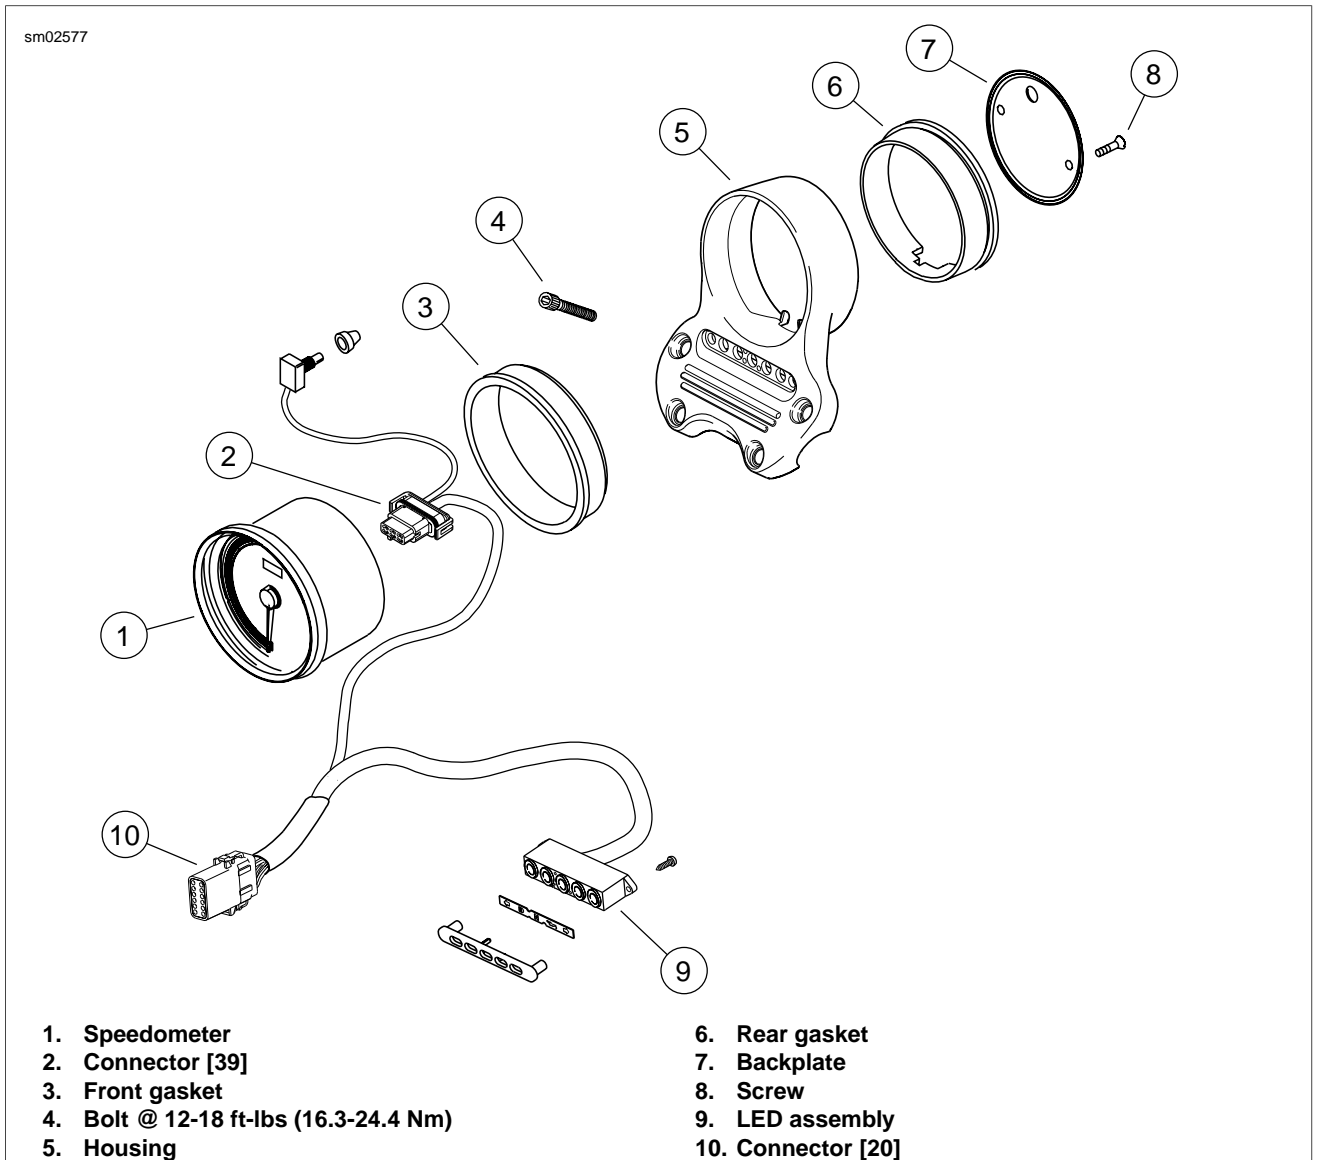

Figure 8-53. Instrumentation: FXD
1. See Figure 8-53. Remove two screws (8) and backplate (7).
2. Depress tab and remove 12-pin connector (2) [39] from back of speedometer.
3. Push speedometer (1) through front of housing (5).
4. Remove front gasket (3) from speedometer.
1. See Figure 8-53. Install front gasket (3) to speedometer and slide speedometer into housing. Press firmly until fully seated.
2. Connect 12-place connector (2) [39] to back of speedometer.
3. Route wires through slot in back of instrument housing. Install rear gasket (6) on back of housing. Install backplate (7) with two screws (8).